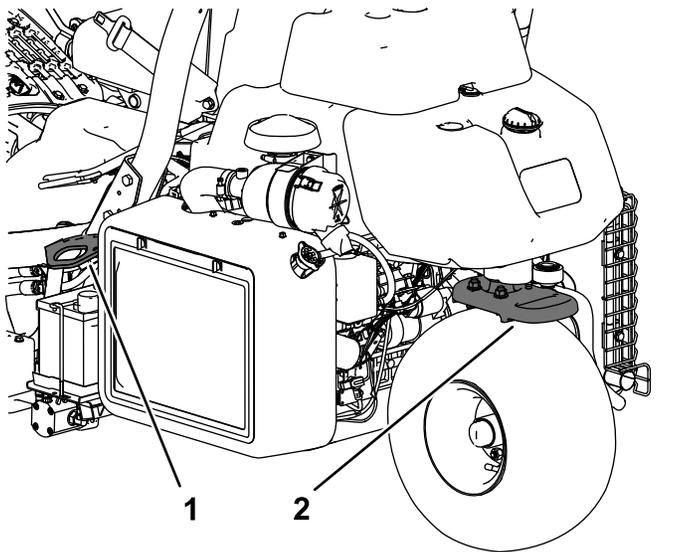

Figure 27
- Tie the machine down securely using straps, chains, cable, or ropes. Both front and rear straps should be directed down and outward from the machine (Figure 27).